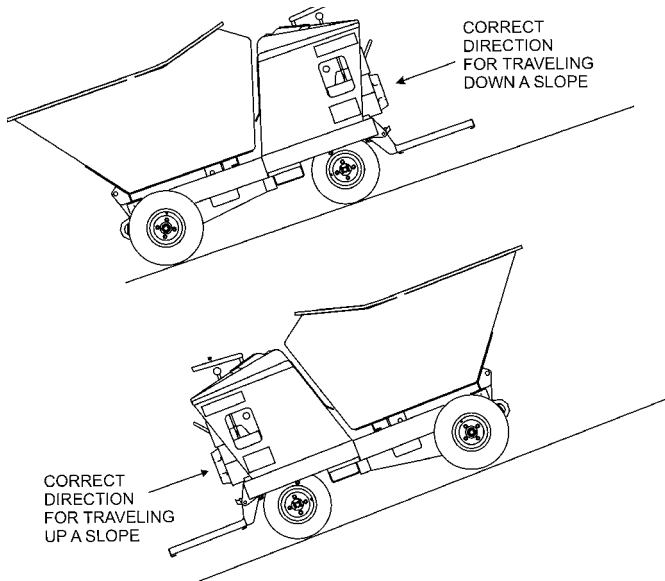

Figure 22. Slope Travel Direction
2. When going up or down a slope, always travel in the forward direction (Figure 22).